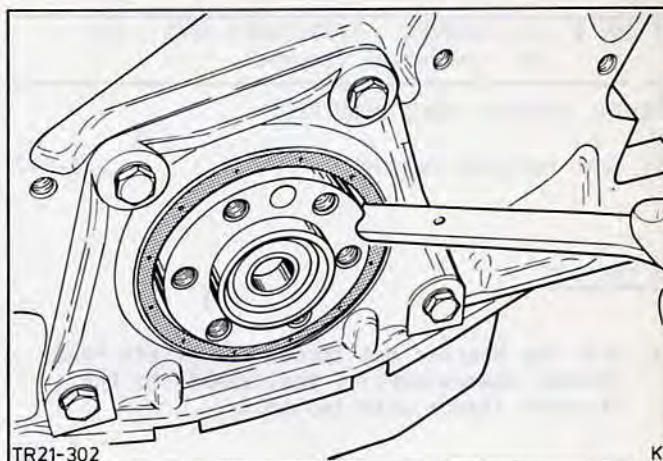

Fig.115. Remove oil seal.
3. Remove oil seal using special tool 21-096, Fig.115.